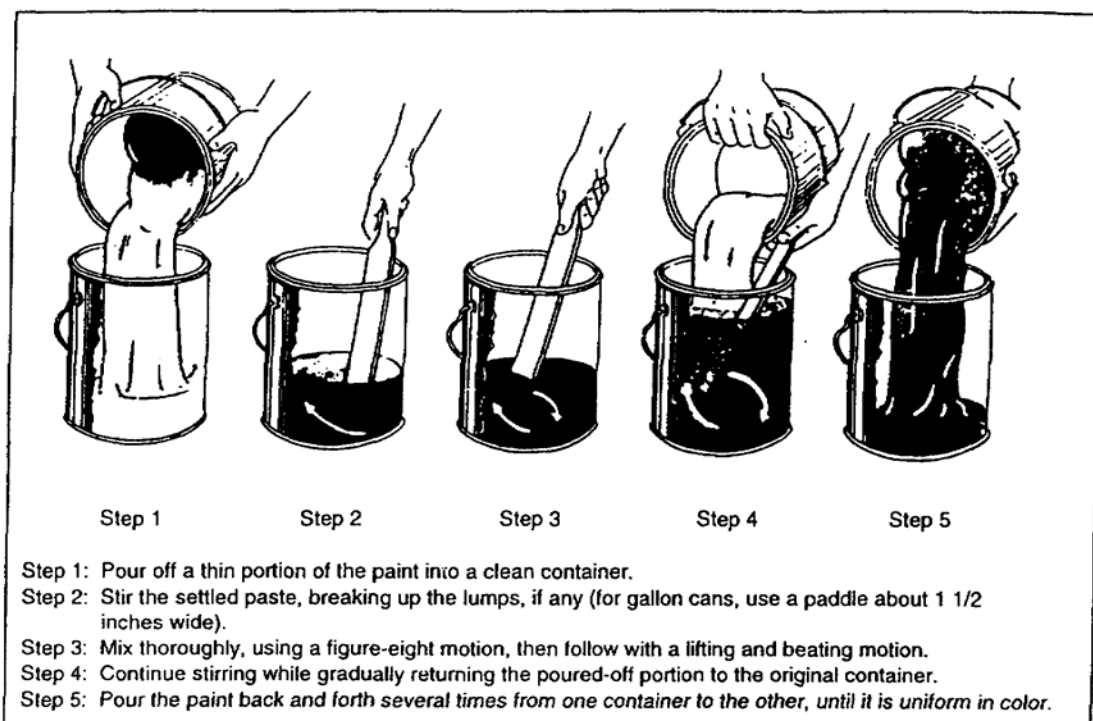

Figure 2-4. Boxing paint
(1) **Boxing** Use boxing when you are mixing paint by hand. Boxing consists of pouring the paint back and forth from one container to another. To do this, follow the procedures listed in Figure 2-4, page 2-18.